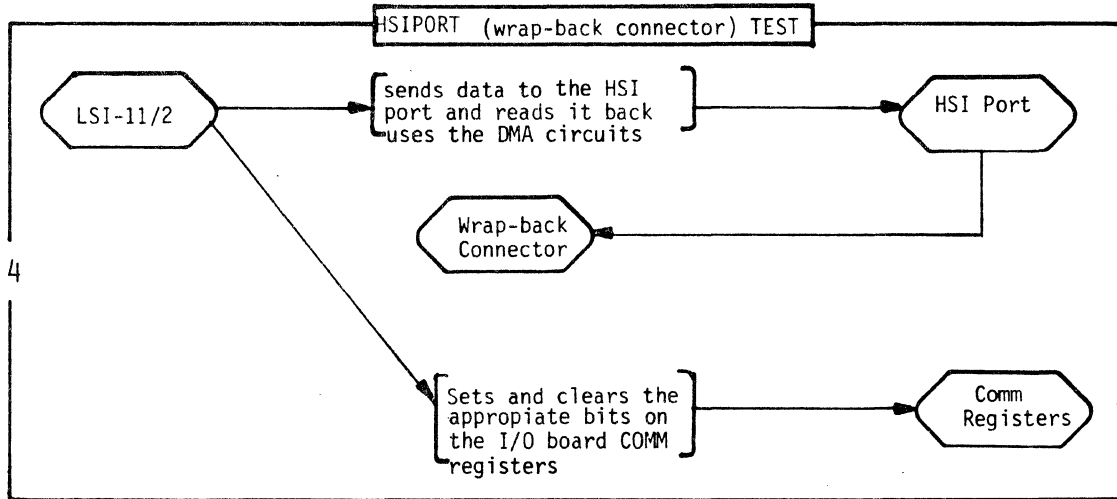

Fig. 4-20. Wrap-back test.
4. WRAP-BACK TEST (Fig. 4-20). The LSI-11/2 sends a set of data to the port and reads it back via the wrap-back connector. The test also checks that the appropriate communications register bit can be set and cleared.